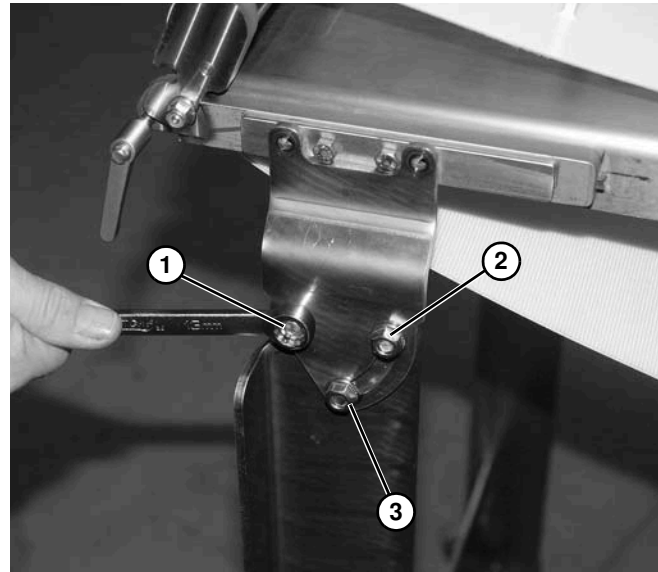

Figure 55
10. Remove screw (**Figure 55, item 1**), and screw and nut (**Figure 55, item 2**) from conveyor bracket.
11. Loosen nut (**Figure 55, item 3**) on lower screw.